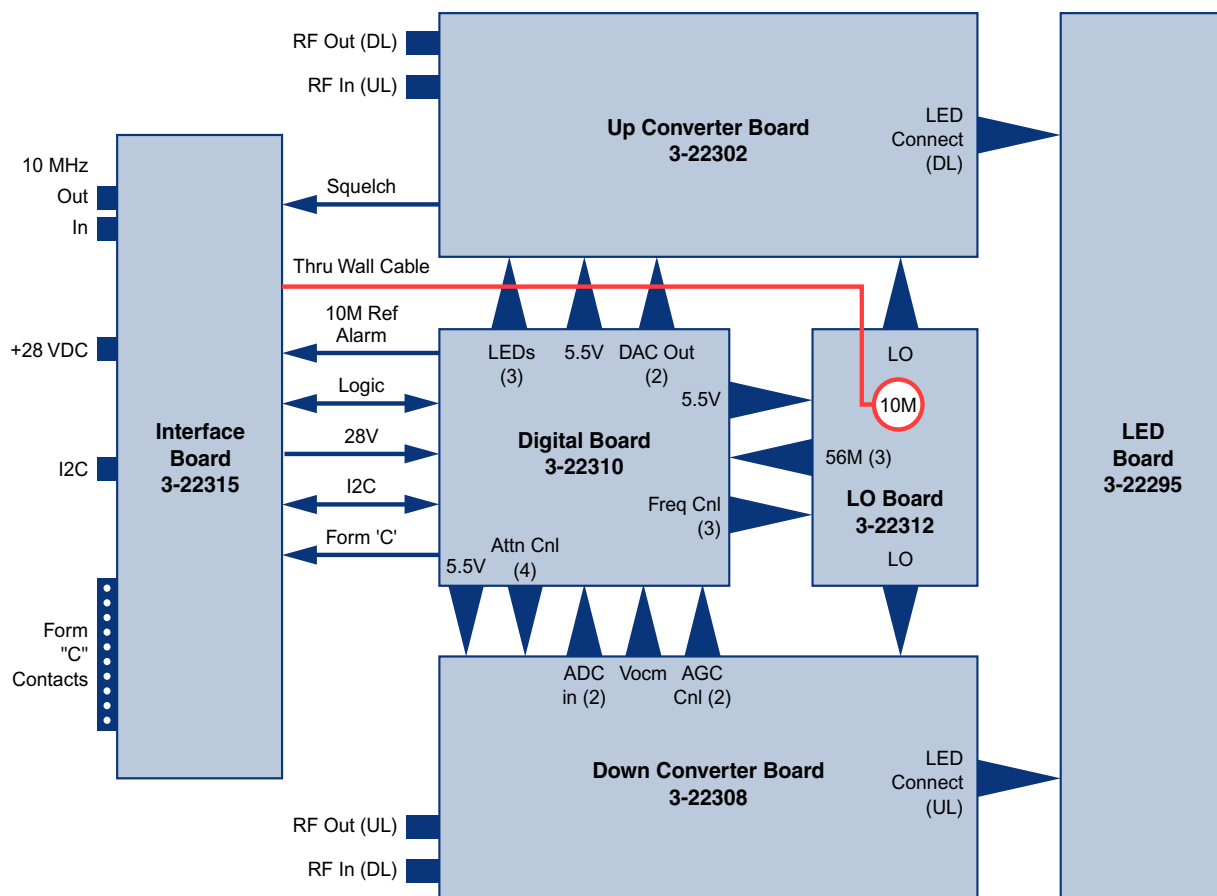

Figure 5: Channel Module block diagram.
- Figure 5: Channel Module Block Diagram..... 6**
The channel modules are bi-directional with each module containing one downlink branch and one uplink branch. The branches are functionally identical because the same set of circuit boards are used in each branch. The uplink and downlink branches can work on different frequencies within the modules passband (450 to 470 MHz) but for either branch the input and output signals will be the same frequency. **Figure 5** is the block diagram of the channel module.